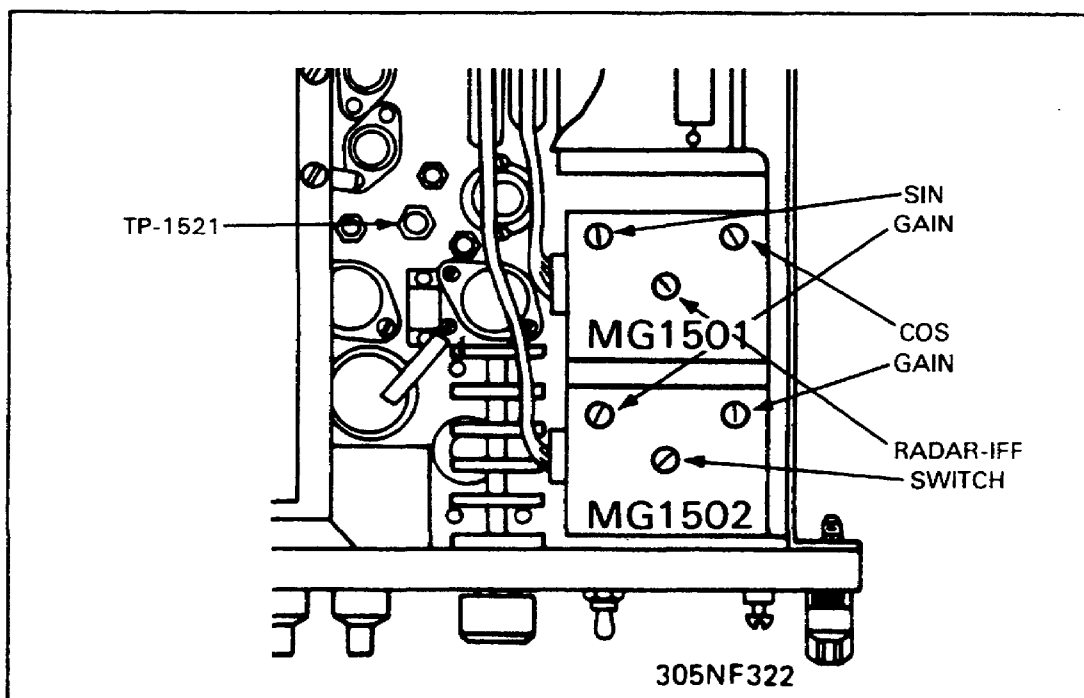

Figure 22. Connection of multimeter to TP-1521.
o. Connect the multimeter to IFF cos test point TP-1521 and observe the voltage. (See Figure 22.)